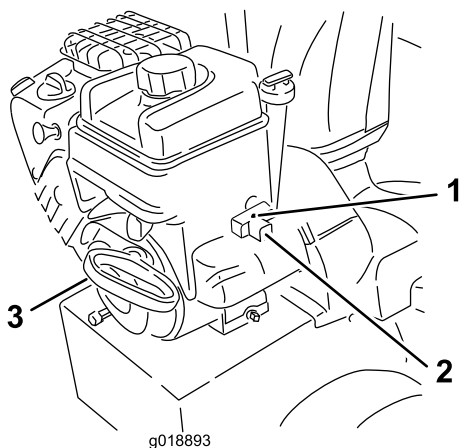

Figure 25
7. Start the machine pulling the recoil starter or pressing the electric-starter button (Figure 25).